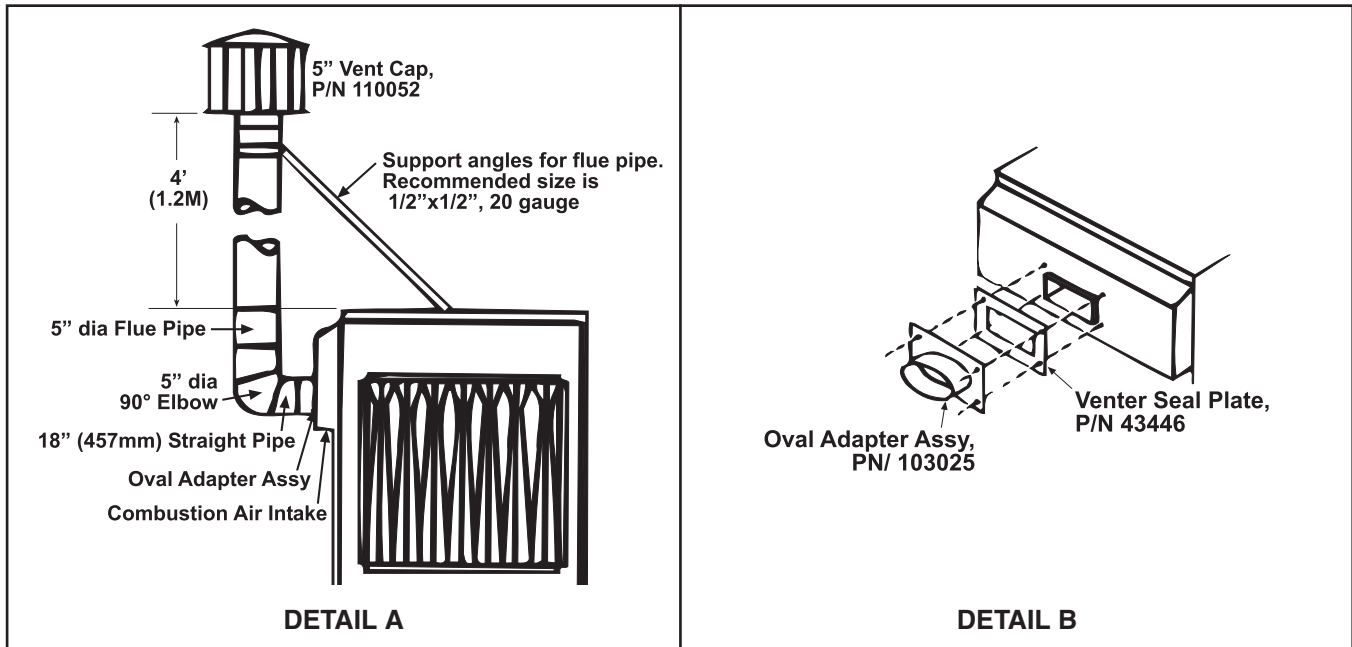

Figure 12. Optional Vertical Flue Discharge
- **Optional vertical flue discharge (option CC3):** These power vented furnaces are certified with 4 feet of vertical pipe connected as shown in Figure 12, DETAIL A. The distance is measured from the top of the unit to the bottom of the vent cap. The vent pipe and supports are field-supplied. Optional vertical vent piping provides compliance with local codes that require either 10-foot horizontal or 4-foot vertical clearance between the flue outlet and the fresh air intake of the heating system and/or building. The option package (PN 45021) includes the 5-inch vent cap, the adapter assembly, and the seal plate as shown in Figure 12, DETAIL B. Attach venter seal plate and oval adapter assembly with sheet metal screws. Use venter seal plate as drill template.